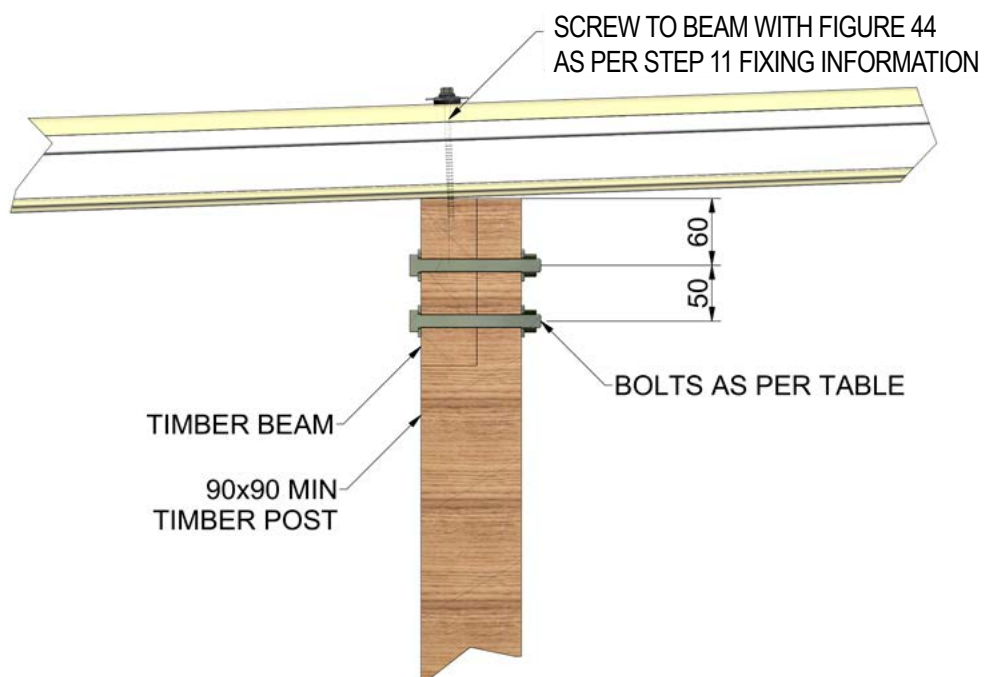

Figure A21
STEP 8**SELECT BEAM TO POST CONNECTION TYPE****Timber Post to Timber Beam (see Figure A21)**